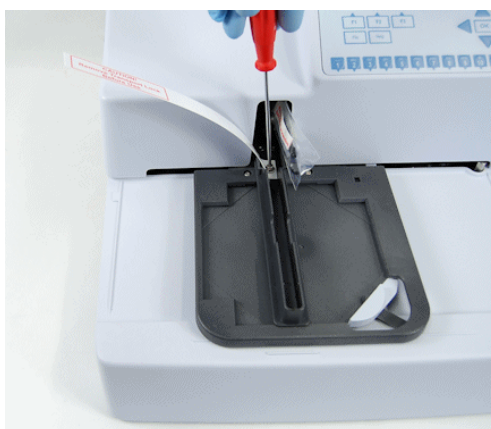

Figure 6. Unfastening the transport lock
2. Unfasten the transport lock screw using the Allen key supplied (Figure 6).